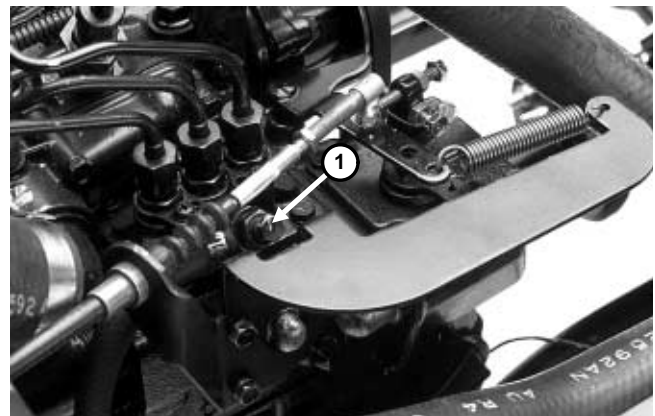

Figure 40
3. Open the air vent screw on the fuel injection pump (Fig. 40).